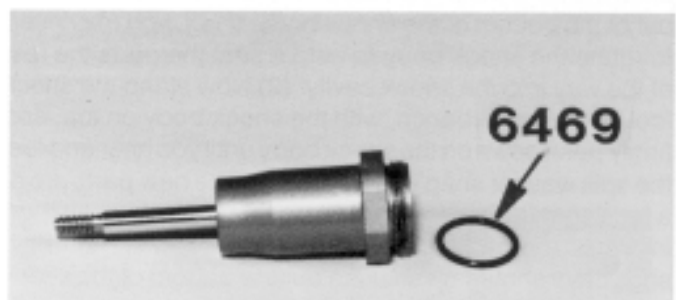

Fig. 53
(#6469 used in Fig. 53)
□ **Fig. 53** Locate the #6469 black O-ring which we pulled out in fig. 45. Install the black O-ring over the threads on the shock body and seat it flush in the pocket at the bottom of the threads.